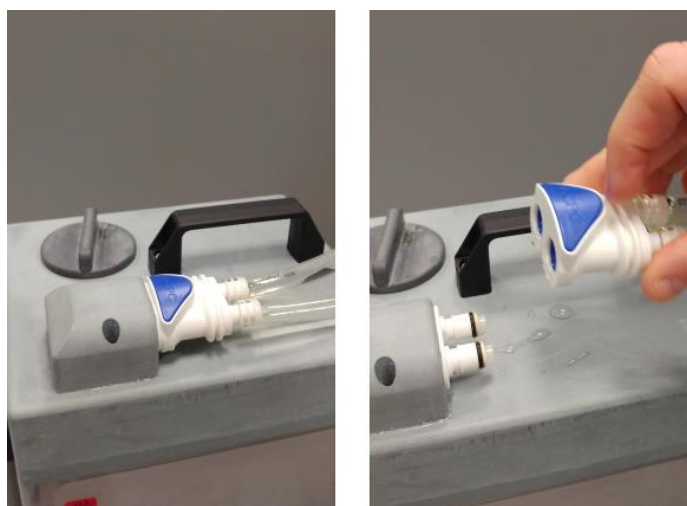

Figure 12-3
Step 5: Disconnect the pipes. see Figure 12-3.
Step 11: Make sure that the water system hose is connected to the Front End. See **Figure 12-3**